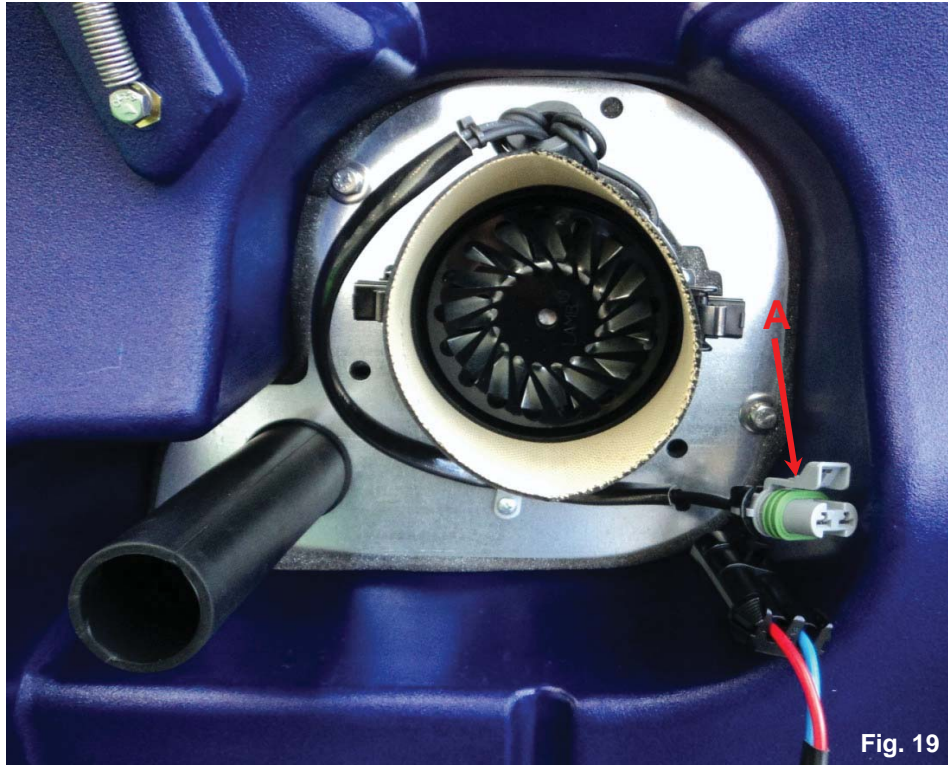

Fig. 19
- 4 Isolate and disconnect the power connector **A** to the suction motor, see Figure 19.